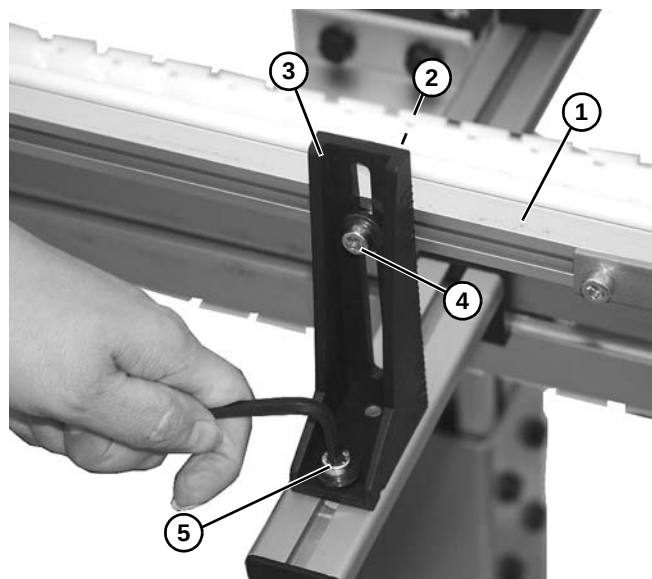
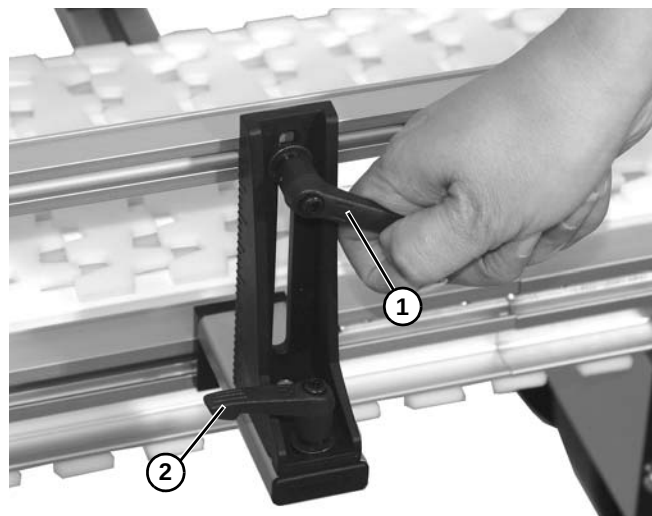

Figure 43
Figure 44
4. Install guide rail (Figure 43, item 1) onto square nut (Figure 43, item 2) onto mounting bracket (Figure 43, item 3) with socket head screw (Figure 43, item 4) or handle (Figure 44, item 1) for tool-less guiding.
5. Loosen socket head screw (Figure 43, item 5) or handle (Figure 44, item 2) and adjust mounting bracket (Figure 43, item 3) as needed.
10. To adjust guiding width loosen screws (**Figure 43, item 5**) or handle (**Figure 44, item 2**). Adjust to desired width. Tighten screw or handle.
11. To adjust guiding height loosen screws (**Figure 43, item 4**) or handle (**Figure 44, item 1**). Adjust to desired height. Tighten screw or handle.